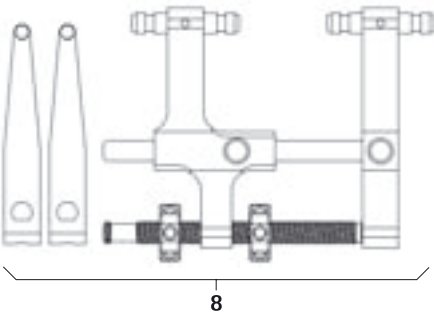

Fig. 14
- Mount distractor 8 with the distraction arms, see Fig. 14.